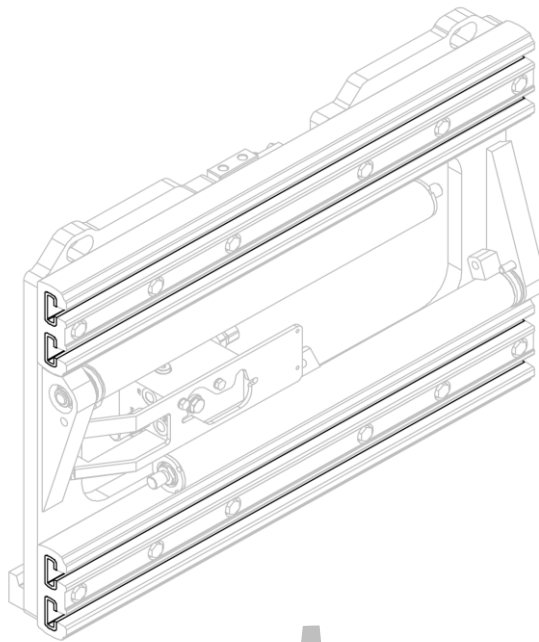
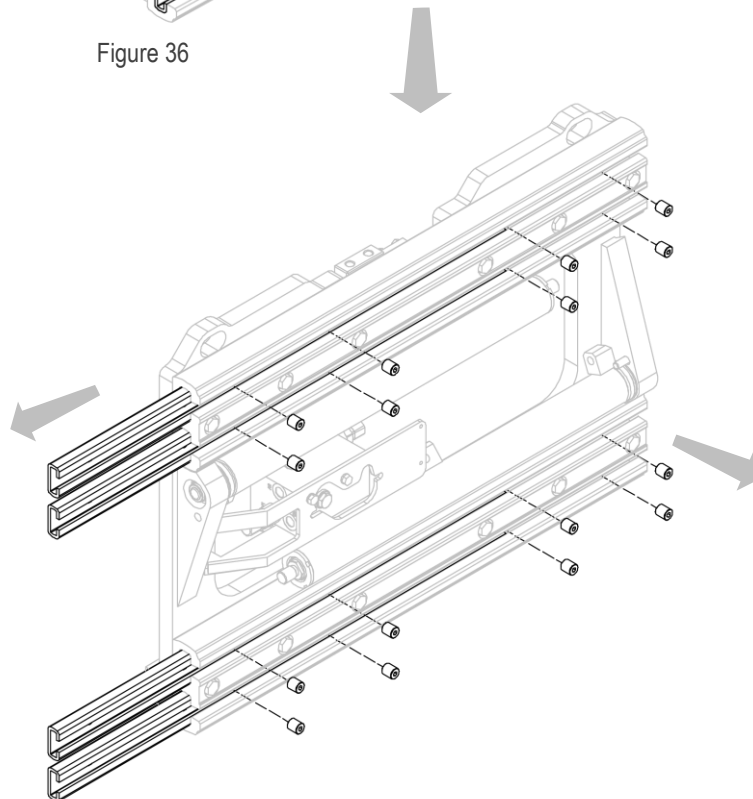

Figure 36
Figure 37
3. Remove the nylon bushes after unscrewing the corresponding grub screws (see *Figure 36* and *Figure 37*).